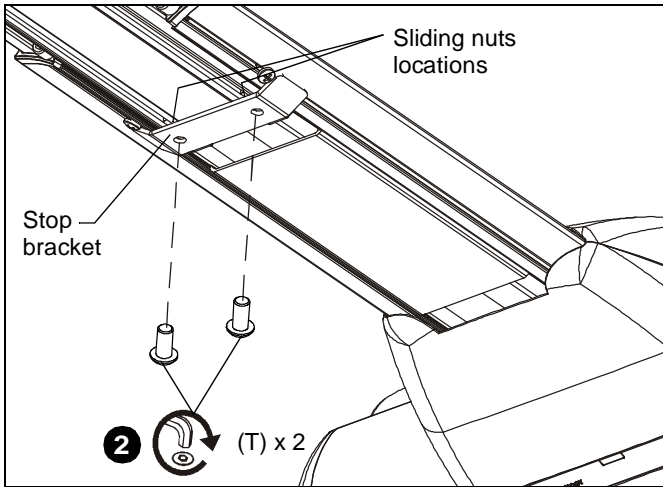

Figure 48
2. Install two 1/4-20 x 1/2" button head security screws (T) through holes in stop bracket and into holes in sliding nuts. (See Figure 48)